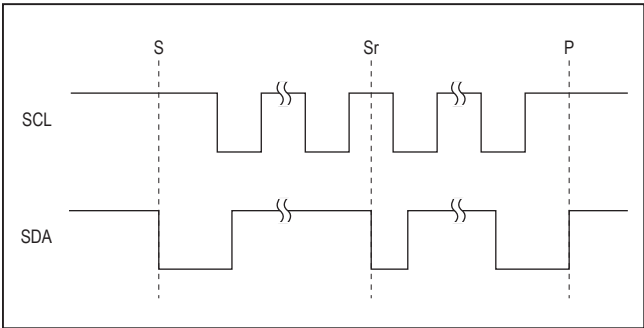

Figure 7. I²C START, STOP and REPEATED START Conditions
When writing to the MAX14748 using I²C, the master sends a START condition (S) followed by the MAX14748 I²C address. After the address, the master sends the register address of the register that is to be programmed. The master then ends communication by issuing a STOP condition (P) to relinquish control of the bus, or a REPEATED START condition (Sr) to communicate to another I²C slave. See Figure 7.